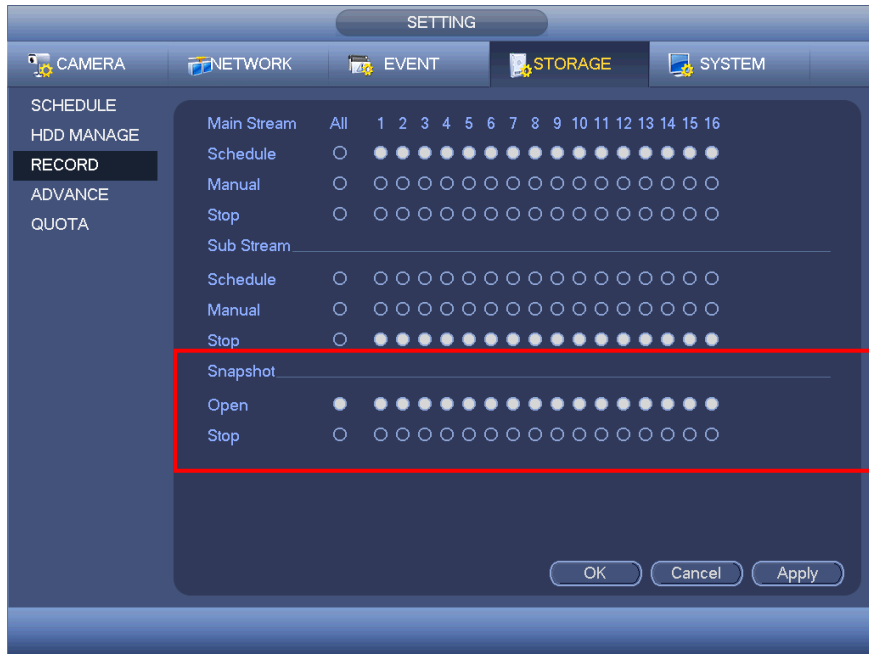

Figure 4-96
- On the preview interface, right click mouse and then select Manual->Record, or in the main menu, from Setting->Storage->Record, check the box to enable snapshot function of corresponding channels. See Figure 4-96.